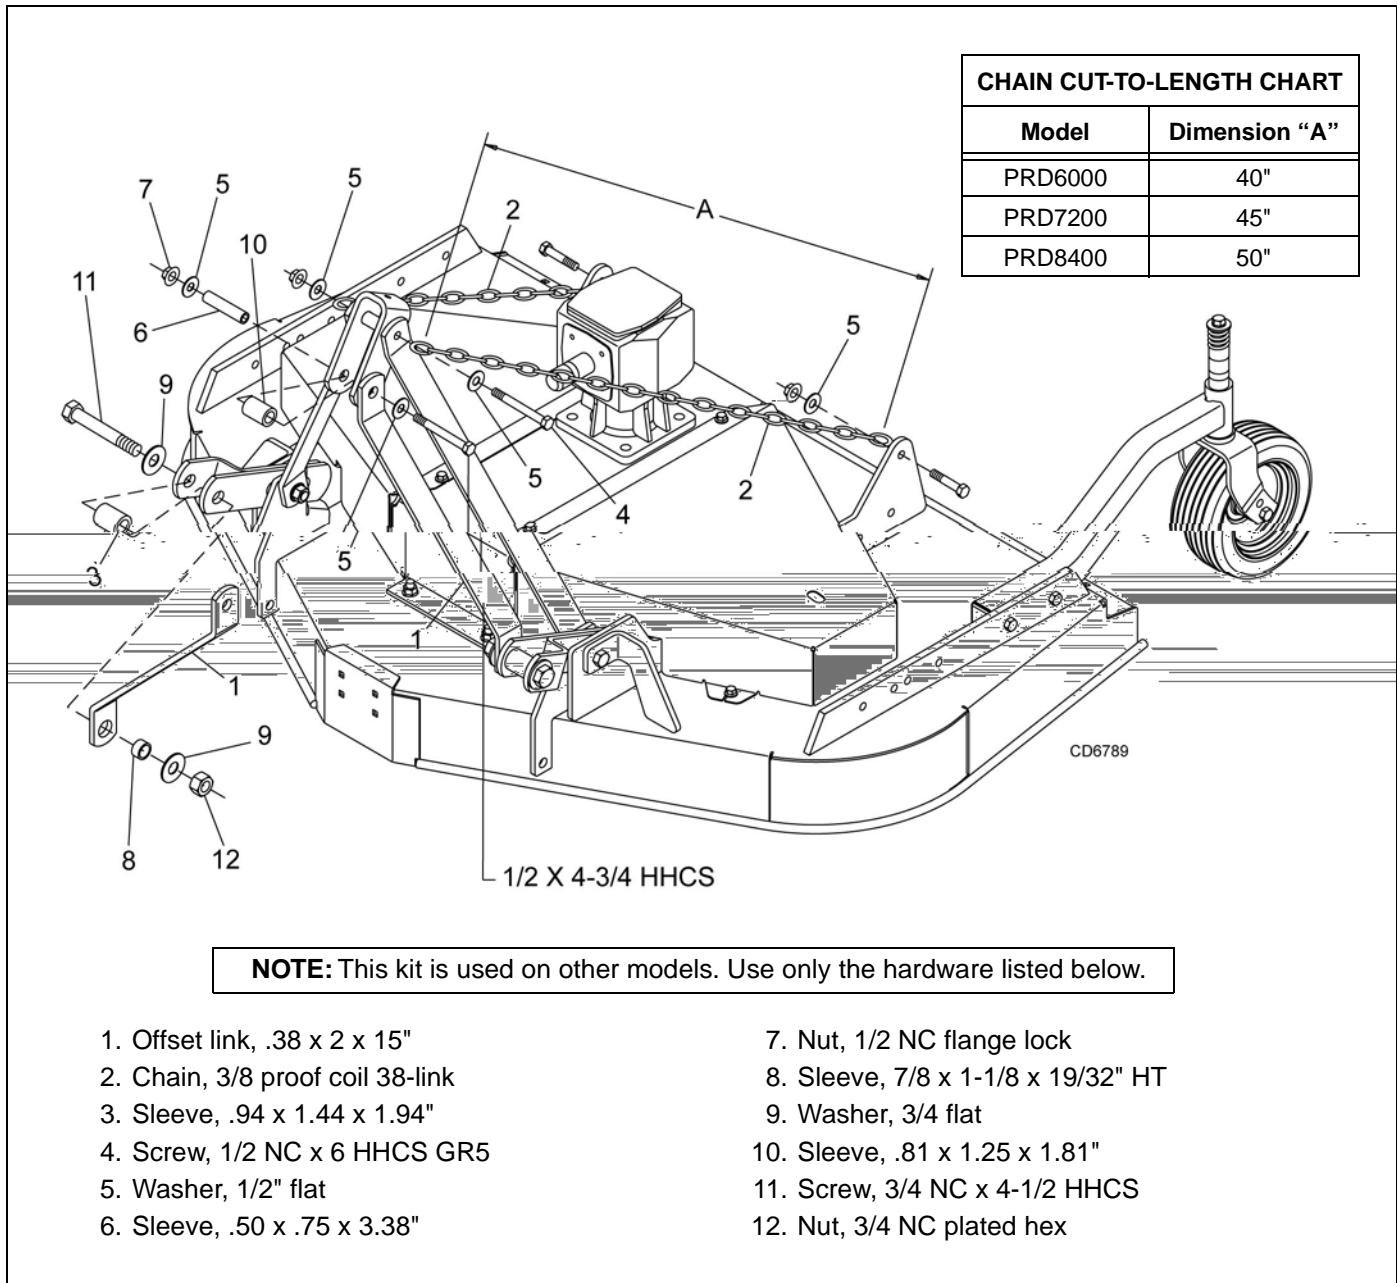

Figure 35. Quick Hitch Kit Installation (Optional)
- Attach offset link (1) to lower hitch clevis using sleeves (3 & 8), two flat washers (9), cap screw (11), and hex nut (12) as shown in Figure 35. Do not tighten hardware. Repeat for opposite side.
- Attach upper end of offset links (1) to each side of U-bracket link, using two flat washers (5), sleeves (6 & 10), flange lock nut (7), and 1/2 x 4-3/4 cap screw.
- Remove rear offset links. They will be replaced with chains (2)
- Attach chains to top of A-frame on both sides as shown, using cap screw (4), two flat washers (5), and nut.
- Attach opposite ends of chains (2) to rear mower frame as shown. Cut chains to length (see chart above). Vary length slightly as desired. Twist chain to make finite adjustments in length until unit lifts level.